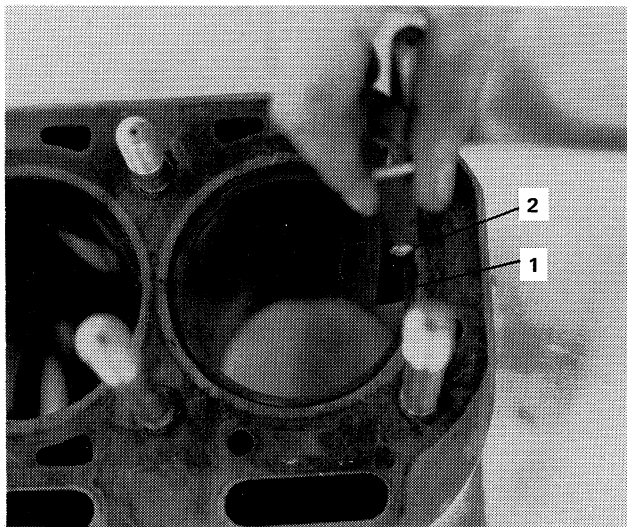

Figure 19
4. Place the ring at a right angle to the cylinder bore and measure the end gap with a thickness gauge, Figure 19. If the ring end gap exceeds the specified limit page 29, install new rings.